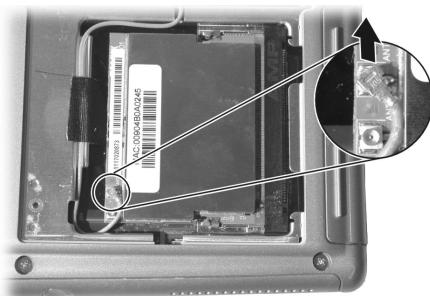

Figure 2-13
2. Disconnect the antenna from the connector on the Mini PCI socket. (Figure 2-13)